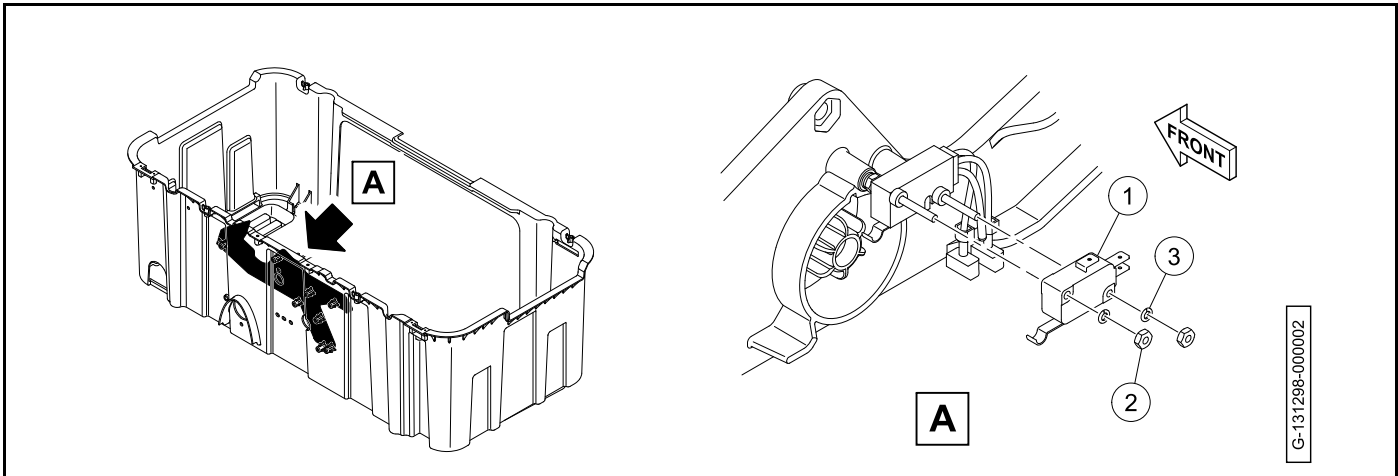

Figure 20-27 Neutral Lockout Limit Switch Installation
1. Install the neutral lockout limit switch (1) on the bolts (Figure 20-27, Page 20-26).